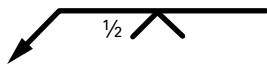

Figure 2
- In the welding symbol shown in *Review Question Figure 2*,  $\frac{1}{2}$  represents the \_\_\_\_\_.